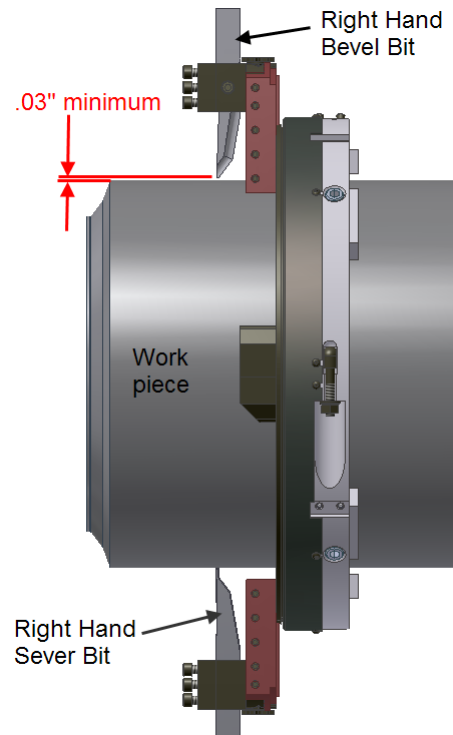

Figure 10
4. Manually rotate the cutting head counter-clockwise 1 revolution. This reverse action will put the tool bits away from any high spots in the pipe that could cause tool damage. After one complete revolution has been made tighten the cap screws on both tool blocks. Back the bevel bit 1/32" away from the work piece with the star wheel wrench (see Fig. 10)